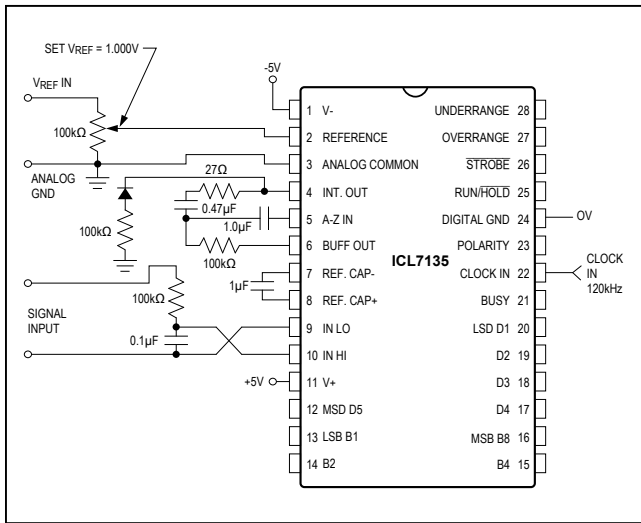

Figure 1. ICL7135 Test Circuit
**Note 1:** Tested in 41/2 digit (20,000 count) circuit shown in Figure 1, clock frequency 120kHz.
The ICL7135 is tested for rollover using the circuit of Figure 1, with the 100kΩ resistor and diode in the circuit. The diode is noncritical, and is typically a low cost 1N4148. The resistor value is dependent on many factors including integrator swing, clock frequency, and the amount of rollover error due to “charge suckout” on the reference capacitor. 100kΩ is the optimum value for most circuits and is the value used in testing the ICL7135.